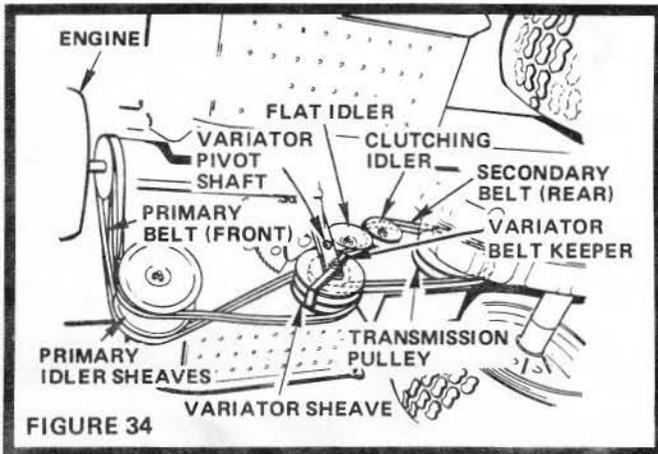

FIGURE 34
- d. Remove Primary Belt from Engine Pulley (Fig. 34).
- f. Remove Klip Ring and Washer from Variator Pivot Shaft (Fig. 34). Slide Pivot Arm inwards.
- h. Remove Idler Nuts and Idler Sheaves from Primary Idler Sheaves (Fig. 34).
- j. To replace Secondary (Rear) Belt move Varidrive Control Lever to fast position. Remove Variator Belt Keeper (Fig. 34) and remove Secondary Belt from Variator.
- k. Remove Clutching Idler (Fig. 34).